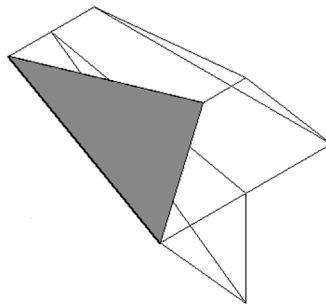
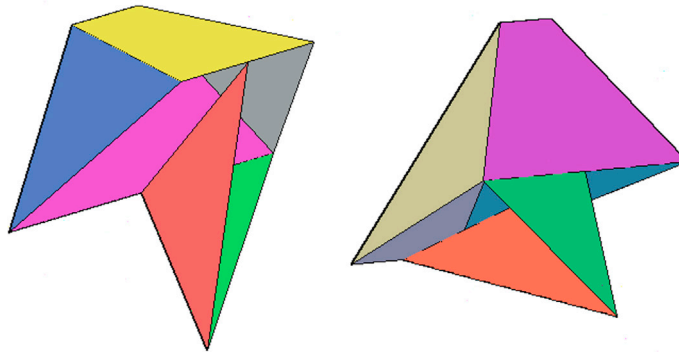

FIGURE 26.21 3Dface.
FIGURE 26.22 3Dface completed.
Step 3. After three or four clicks (depending on which facet you chose to do first), you should be able to get what is seen in Fig. 26.21. Continue covering the other faces, and add color, to get what is shown in Fig. 26.22 (viewed from several angles).